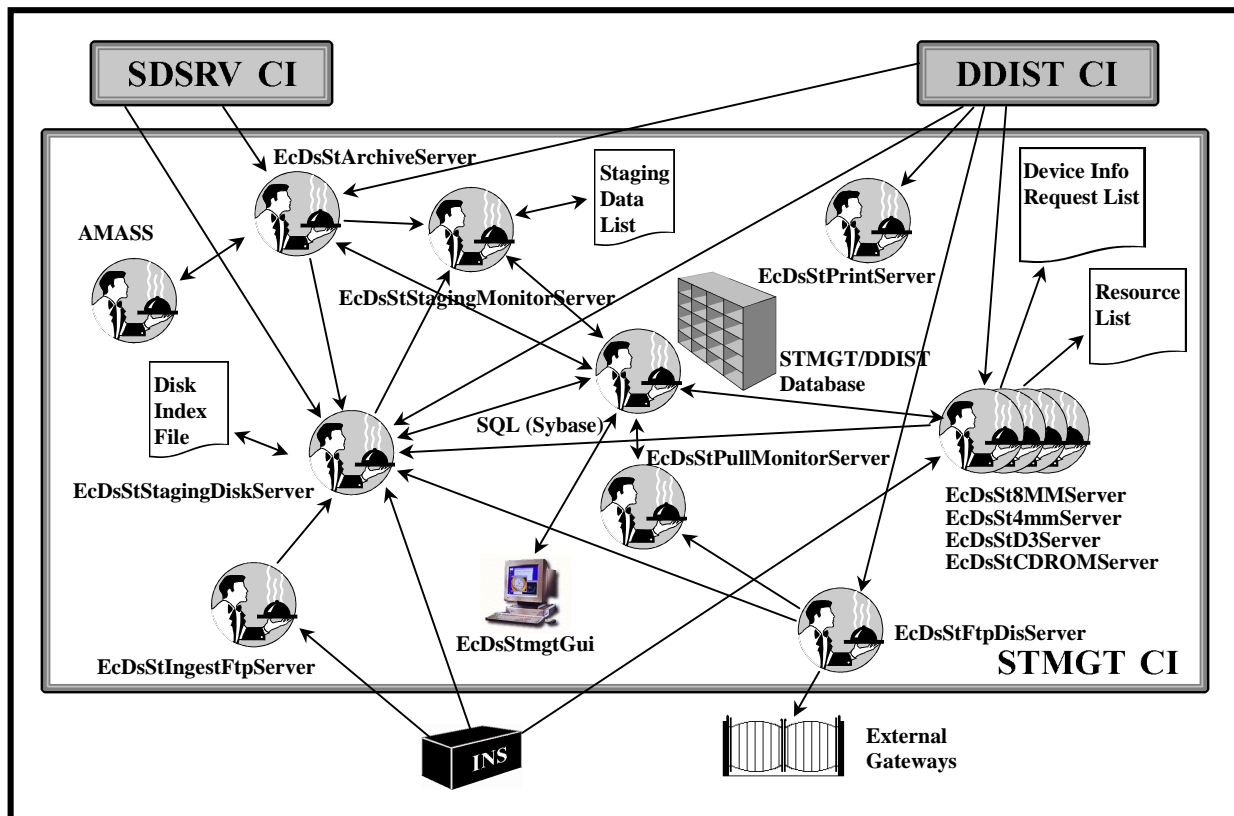

Figure 3. Storage Management (STMGT) CSCI Architecture
- Storage Management (Figure 3) is the part of the DSS that stores, manages, and retrieves data files on behalf of other parts of the Science Data Processing components (including Ingest).
STMGT has the following major components (as shown in Figure 3):